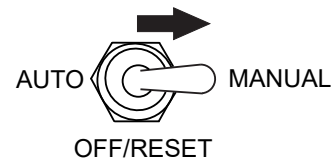

Figure 50. Auto Start/Stop Switch (Manual Position)
2. To start the engine, place the **Auto Start/Stop switch** in the **MANUAL** position (Figure 50).